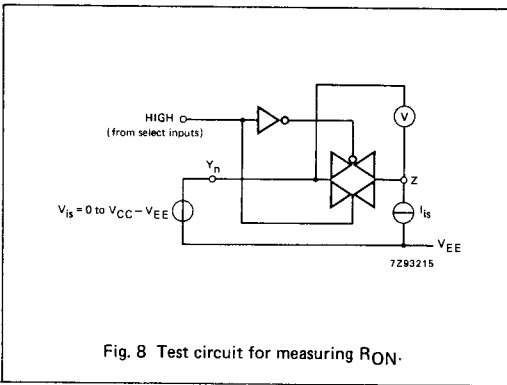

Fig. 8 Test circuit for measuring RON.
- For test circuit measuring  $R_{ON}$  see Fig. 8.